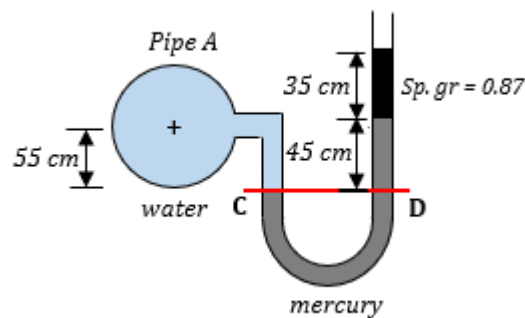

Figure 4
10. The left limb of a U-tube mercury manometer shown in figure 4 connected to a pipeline conveying water, with the level of mercury in the left limb being 55 cm below the centre of the pipeline and right limb being open to atmosphere. The level of mercury in the right limb is 45 cm above that of the left limb containing a liquid of specific gravity 0.87 to a height 35 cm. Find the pressure in the pipe.